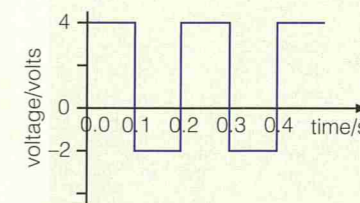

Figure 9.16
- 18 A 20 Ω resistor is connected to an ac power supply with a voltage output that varies from 4 V to -2 V at equal time intervals, as shown in Figure 9.16. What is the mean heating power dissipated in the resistor?